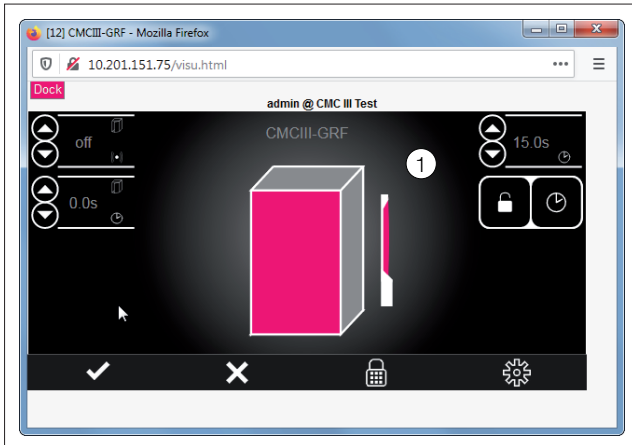

Fig. 15: Graphical display
The display switches to the graphical display (Fig. 15). The status of the door and of the handle lever is displayed here. The sensibility of the IR access sensor or the times can also be set and the door can be released (Fig. 15, item 2).
- Click the grey-scale "graphic" symbol shown behind the "CMCIII-GRF2" entry (Fig. 15, item 1).